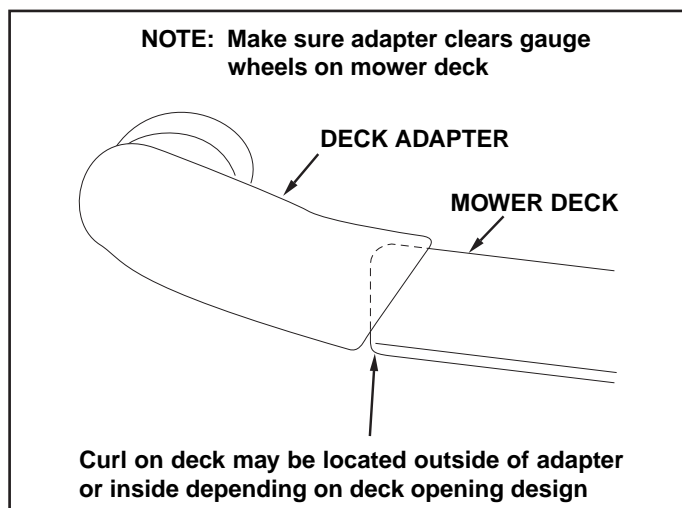

FIGURE 27
- Position the adapter over the deck opening, and check for fit of cutout as shown in figure 27. Trim cutout, if necessary, to allow tilting of adapter, keeping the fit as close as possible for best vacuum suction.